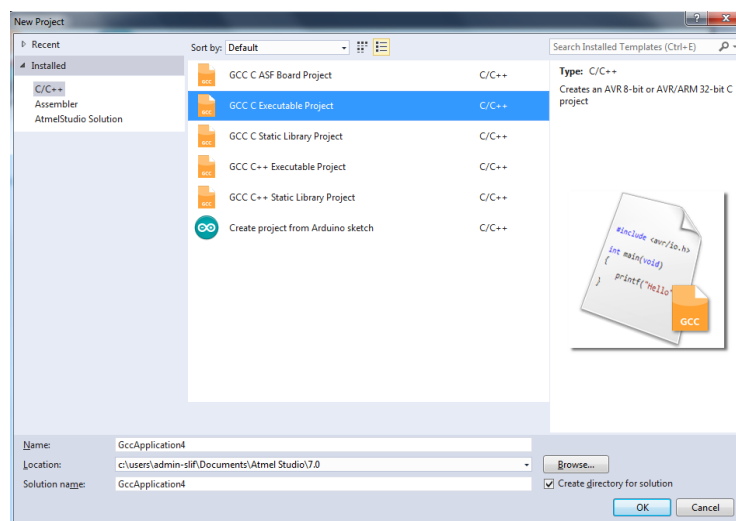

Figure 6 New project dialogue.
- Start Atmel Studio 7 by clicking a ladybeetle icon (🐞) on the Windows desktop. In the main screen which opens up, click *New Project*. In the New Project window that appears (see Figure 6 below), select *GCC C Executable Project* if you want to work with C language project. Enter a meaningful project name and location for your files and press OK.